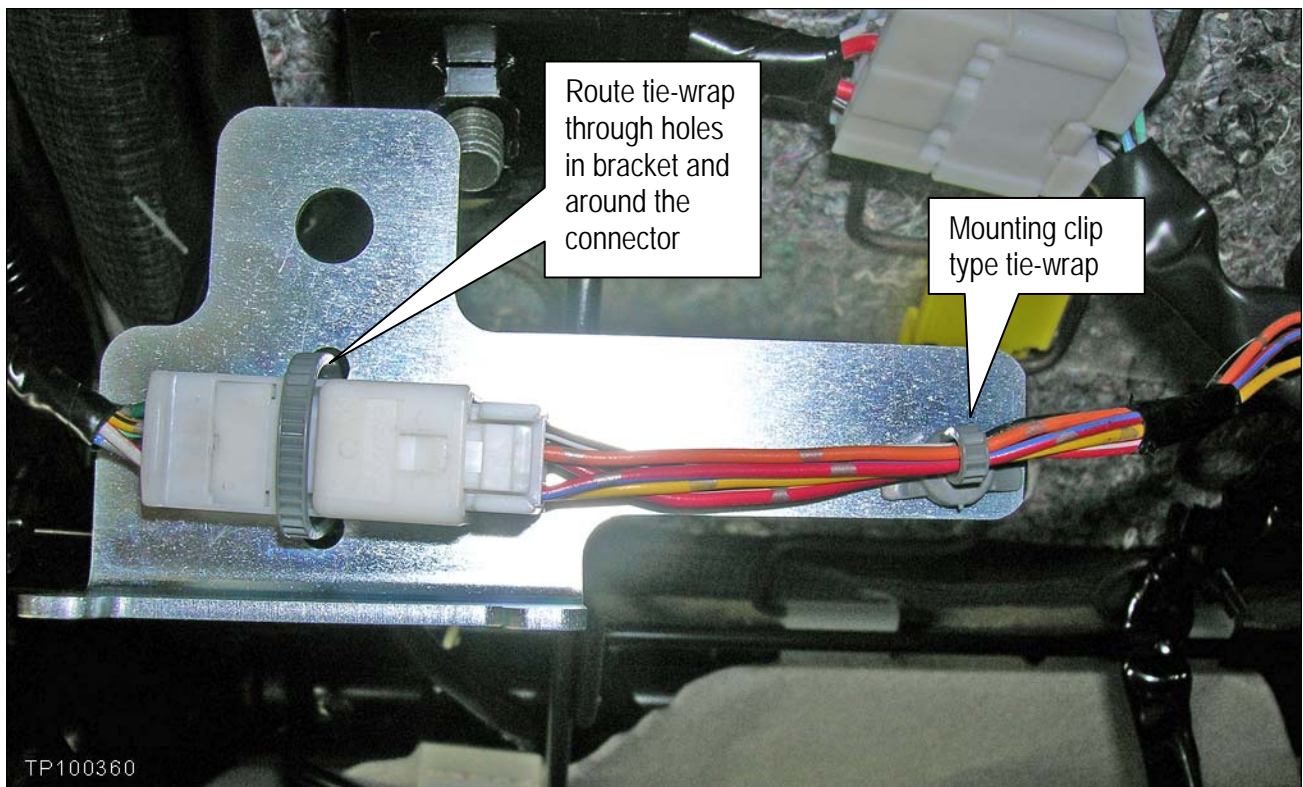

Figure 5d
6. Clip / snap the BTS connector onto the new bracket (see Figure 5d).
7. Install a tie-wrap (P/N 24216 – S5800) around the connector as shown in Figure 5d.
8. Install a “mounting clip type” tie-wrap (P/N 24225 - 79900) as shown in Figure 5d.